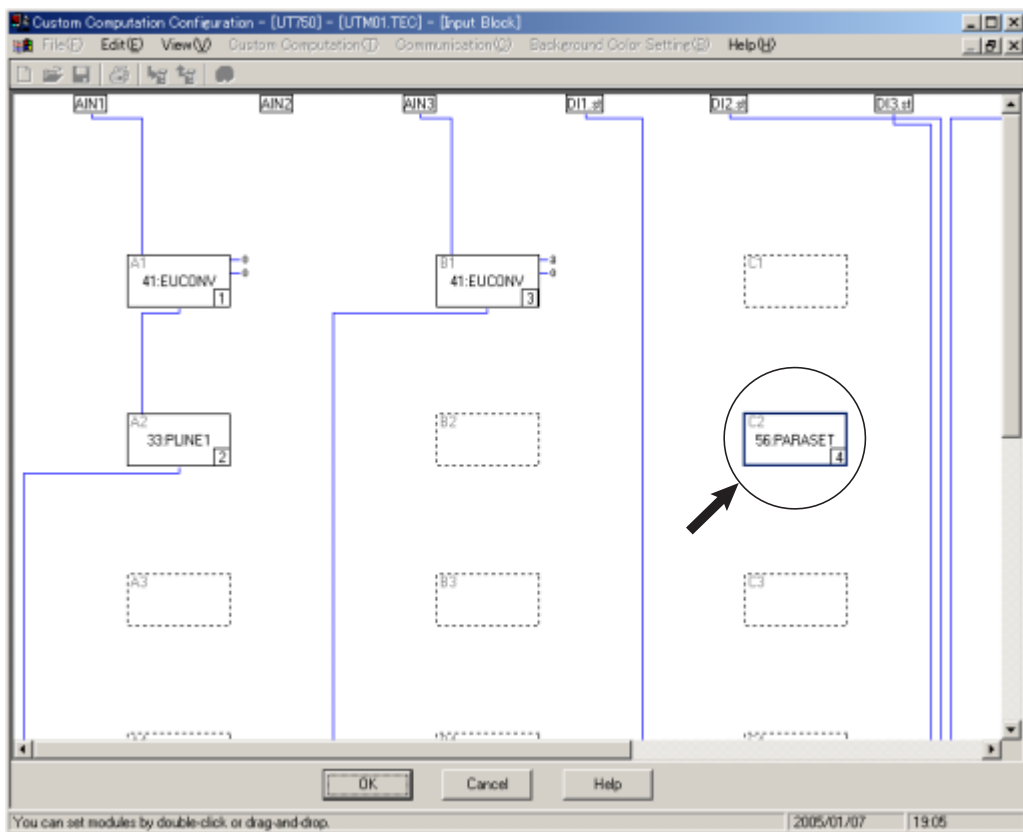

Figure 12.6.4 Example of the [Input Block] Dialog Box where the PARASET Module Is Registered As the Fourth-run Module
- (3) Click the <Special Function> index.
- (4) Double-click <56: PARASET>. The PARASET module is registered with the [Input Block] dialog box, as shown in Figure 12.6.4.